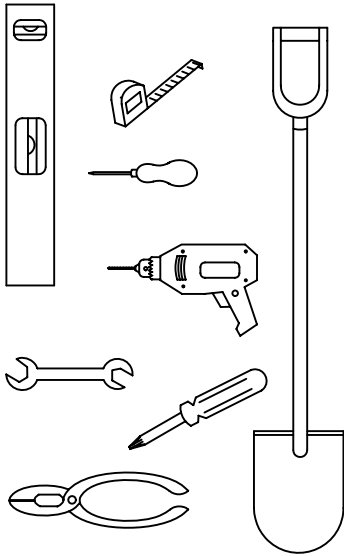

FIG. 1
- 1. WEATHER WARNING ! DO NOT ERECT YOUR BUILDING ON A WINDY DAY. ANY BUILDING LEFT PARTIALLY CONSTRUCTED MAY BE SERIOUSLY DAMAGED (FIG.1).**
- 3. ALL ASSEMBLY OPERATIONS MUST TAKE PLACE ON A COMPLETELY LEVEL SURFACE (FIG. 1)**
- 1. TEMPÊTE DE VENT: NE JAMAIS MONTER VOTRE ABRI PAR GRAND VENT. NE PAS LAISSER UN ABRI PARTIELLEMENT MONTÉ, LES PIÈCES POUVANT ÊTRE ENDOMMAGÉES (FIG. 1).**
- SURFACE PLANE (fig 1).**
- 1. AVISO DE TEMPESTADE! NÃO PROCEDA À MONTAGEM DO SEU ABRIGO NUM DIA VENTOSO. QUALQUER ABRIGO DEIXADO PARCIALMENTE MONTADO PODE FICAR SERIAMENTE DANIFICADO (FIG. 1).**
3. TODAS AS OPERAÇÕES DE MONTAGEM DEVEM SER EFECTUADAS NUMA SUPERFÍCIE COMPLETAMENTE NIVELADA (FIG. 1).
CUALQUIER COMPONENTE QUE QUEDE A MEDIO MONTAR PUEDE SUFRIR DAÑOS IMPORTANTES. (FIG. 1).
3. TODAS LAS OPERACIONES DE MONTAJE DEBEN DE REALIZARSE SOBRE UNA SUPERFICIE TOTALMENTE PLANA Y AL MISMO NIVEL. (FIG. 1)